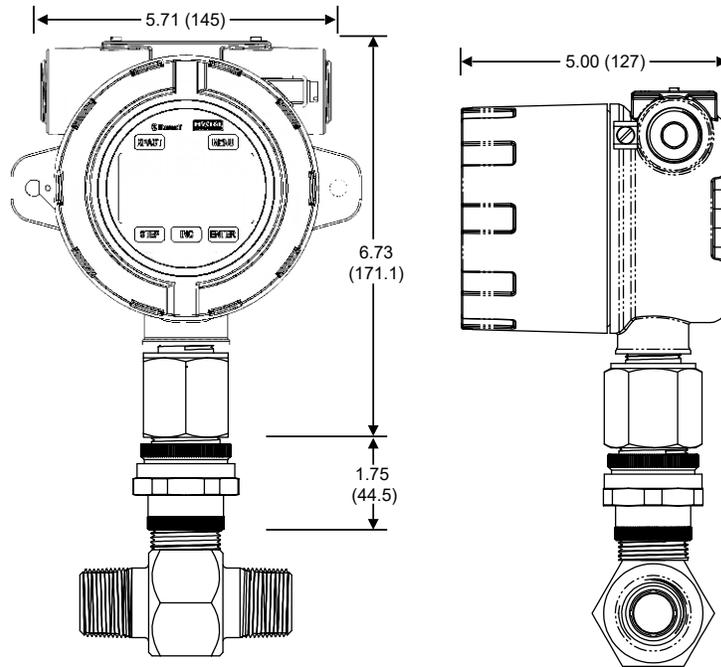
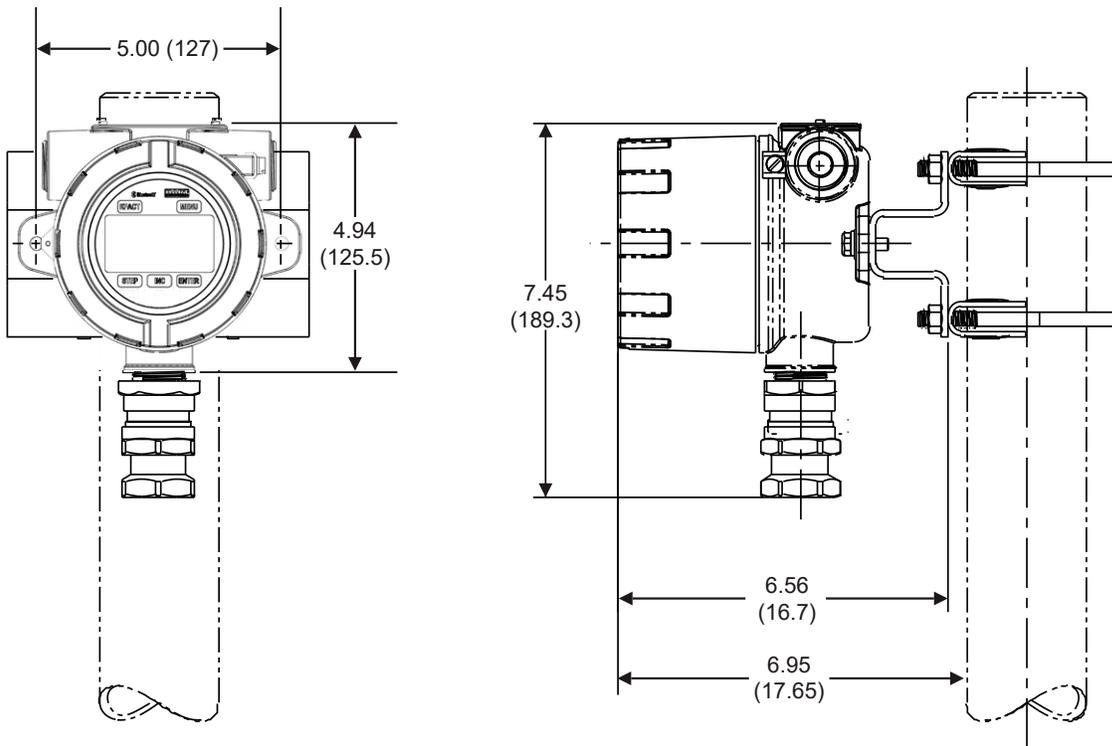

Figure 2.5—Direct mount (standard MC Synergy EXP enclosure) to NUFLO turbine meter with pipe reducer and union (CEC/NEC compliant)
Figure 2.6—Remote mount on a 2-in. pole using a NUFLO hardware kit (Part No. 9A-30028004)
- The MC Synergy EXP may be mounted directly to a flowmeter, or mounted remotely on a pole and connected to a flowmeter with explosion-proof signal cable. The type of meter mount required varies with the meter in use. See Figure 2.5, page 38 and Figure 2.6, page 38 for installation dimensions.
- Mount the device to a NUFLO turbine meter or a BARTON 7000 Series turbine meter. A CSA-approved pipe reducer and union connector is required (Figure 2.5, page 38). Union must be wrench tight.
- Remote-mount the device to a 2-in. pole using a NUFLO hardware kit (Figure 2.6, page 38). Pole mounting may be preferred where limited space or pipe vibration prohibits direct-mount installation. For best results, install the device as near as possible to the meter to minimize the length of explosion-proof signal cable that must be used for communications. Stranded, shielded cable is recommended.